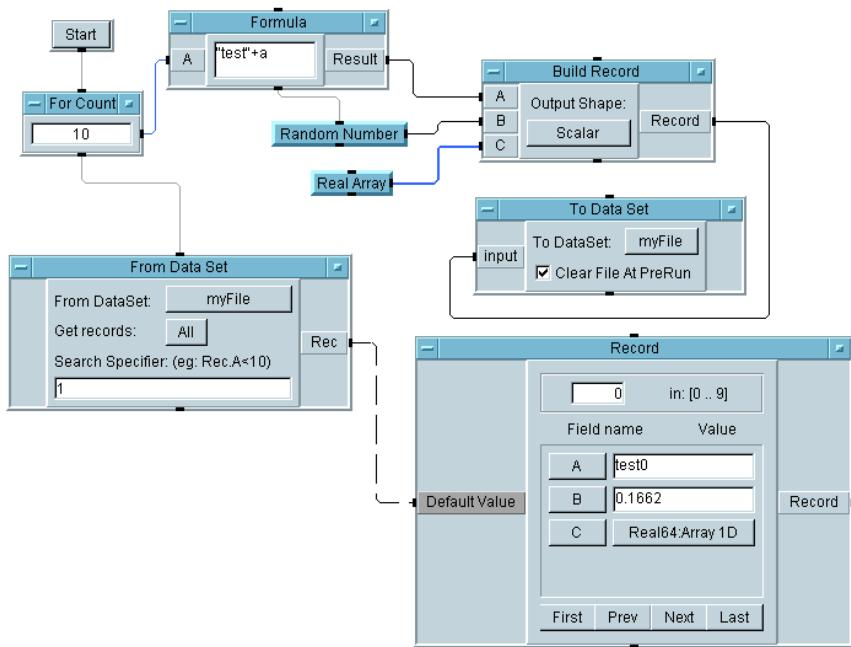

Figure 5-15. Storing and Retrieving Data Using DataSets
12. Run the program and save it as dataset1.vee. The program should look like Figure 5-15.